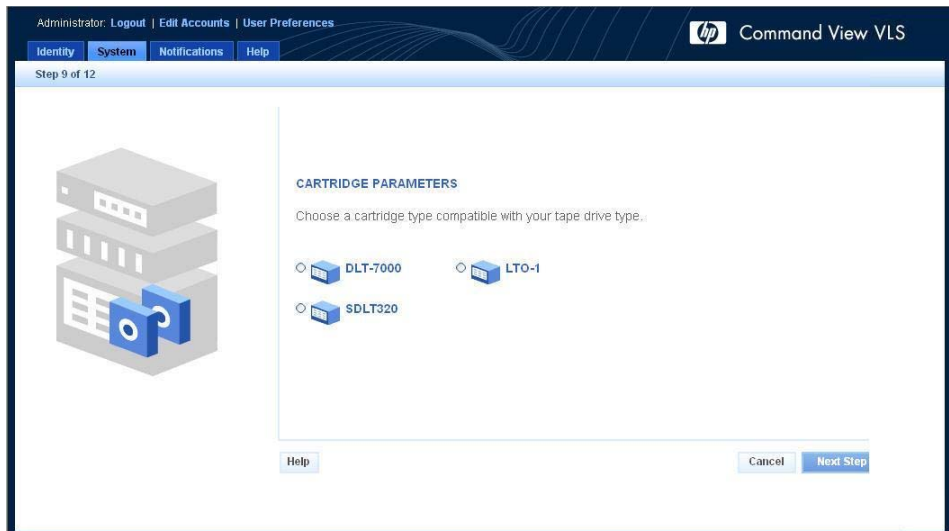

Figure 36 Create Virtual Library Wizard window (9 of 12)
6. Select the type of physical cartridge to emulate (Figure 36).